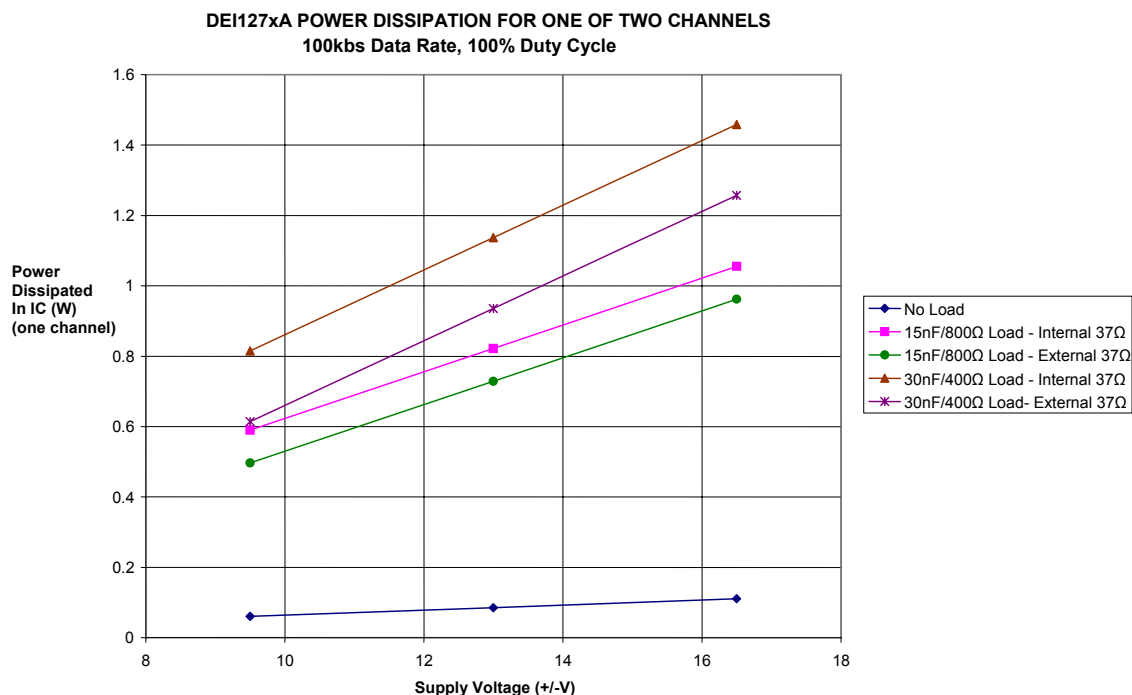

Figure 6 Internal Power Dissipation
The internal power dissipation for 100kbs applications can be estimated from Figure 6. P_d for low speed operation (12.5kbs) is normally not an issue, so is not considered here. The curves in Figure 6 indicate P_d for various loads, supply voltage, and Rout configuration. It represents P_d for 100% Data Duty Cycle at 100KBS with no word gap null times. Thus the indicated P_d values are considered maximum values and should be reduced to account for the Data Duty Cycle as follows:
- Use Figure 6 to select an indicated P_d for the application supply voltage and load. This may involve estimating the Line Driver's load and interpolating between the curves.
- Calculate adjusted P_d = DDC * ($P_d - 0.1$) + 0.1 (W)